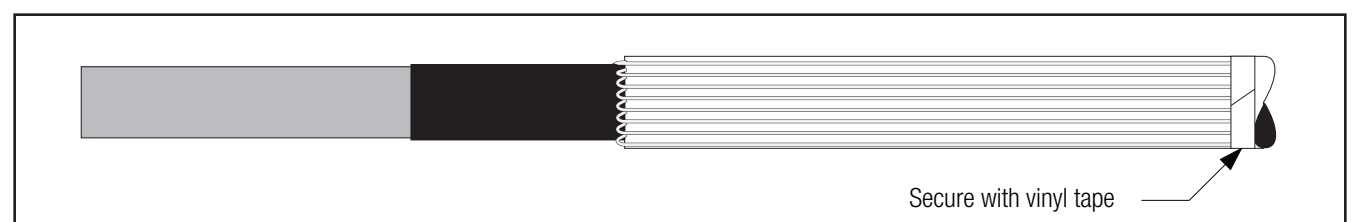

Figure 2
- 2.3 **For JCN or CN splices with exposed neutral connections:** Carefully bend the neutral wires back over the edge of the cable jackets (JCN) or binding wire or tape (CN). Press them against the cable and temporarily secure/cover the end of the wires with vinyl tape (Figure 2).